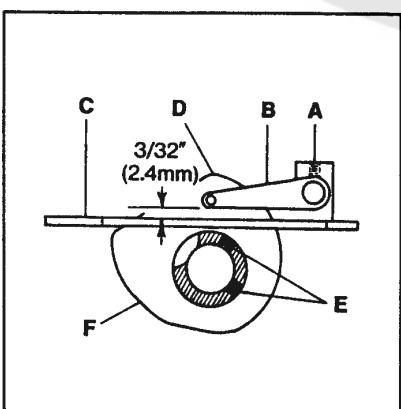

FIG. 35
Loosen screw (A, Fig. 35) and set the lower edge of cover thread take-up eyelet (B) so its $3/32"$ (2.4mm) above the surface of cast-off plate (C). Tighten screw (A). As the cover thread hook moves to the left over the cover thread and the needle bar starts to rise, the cover thread must "cast-off" from the high point of take-up (D). Loosen screws (E) and adjust take-up (F) accordingly. make sure that take-up (F) is centered in cast-off plate slot (C) and take-up eyelet (B) is centered to take-up (F). Tighten screws (E).